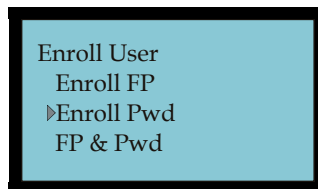

Figure 2-31 Enroll User Menu
3. Press **OK** to display the Enroll User menu and select Enroll Pwd (see **Figure 2-31**).